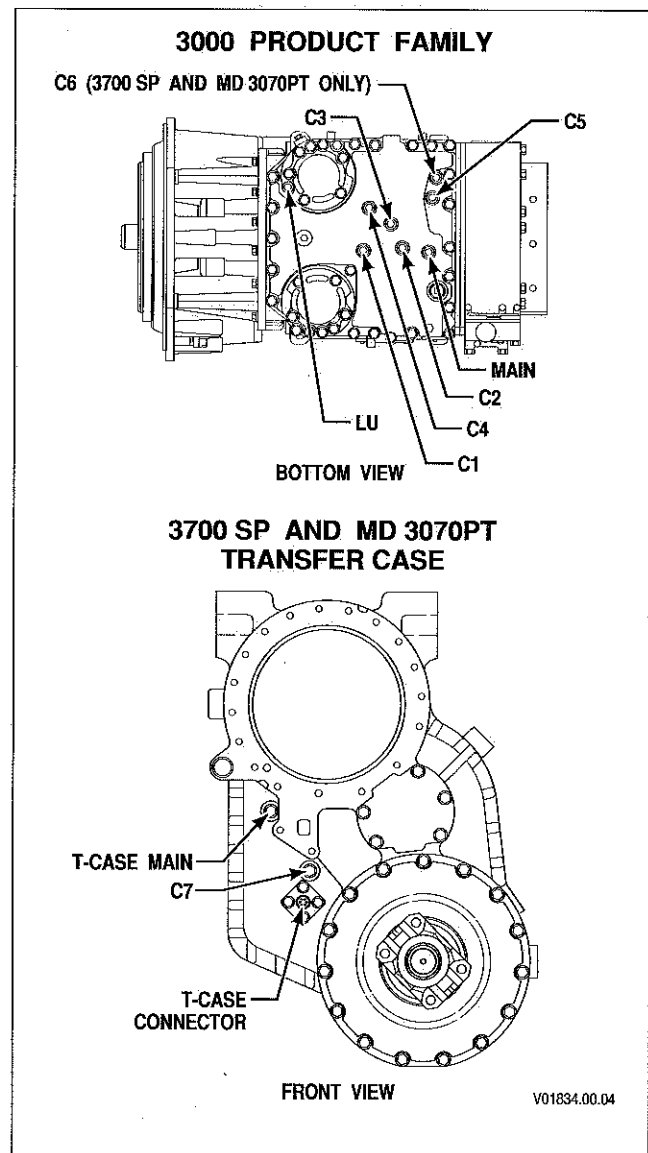

Figure 2-4. Clutch Pressure Check Points
1. Remove the plugs from the pressure tap locations where measurement is desired (refer to Figure 2-4).